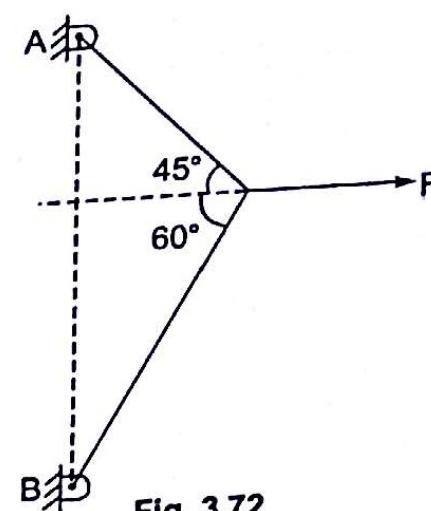

Fig. 3.72
- 3.20 The maximum force F in kN that can be applied at C (Fig. 3.72) such that the axial stress in any of the truss member does not exceed 100 MPa, if area of cross-section of each number is 100 mm^2